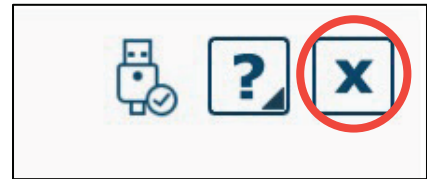

Figure 36: Exit Button
2. From the Bertec® login screen, click on the [X] button in the upper right corner of the screen (Figure 36).